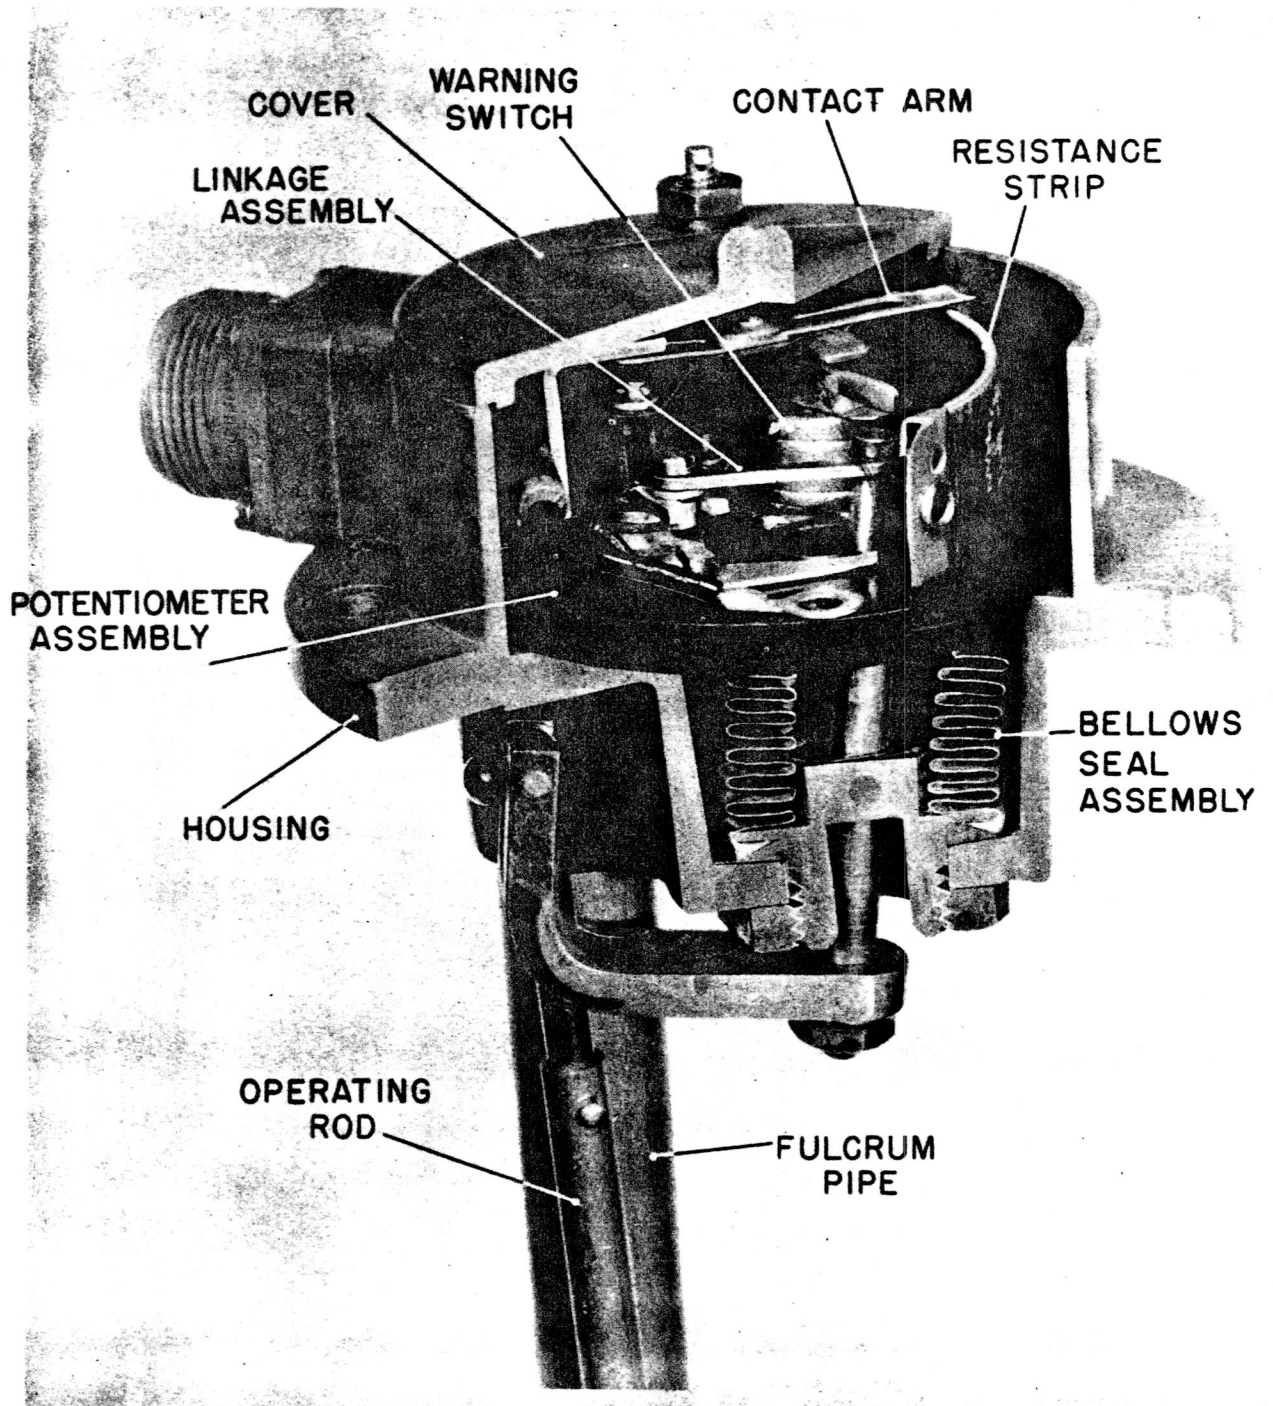

Figure 33—Cutaway View of Leverage Type Tank Unit
(1) A tank transmitter unit is installed on each tank. (Tank Units vary depending on the shape of the tank, internal obstructions, etc. They may be installed on top, side, bottom, or any other position on tank that will provide the most practicable installation arrangement.) Each tank unit contains a resistance strip and a movable contact arm, the position of which is varied by the motion of a float in the tank. This position is transmitted electrically to an indicator graduated in gallons or other form of measurement. Fuel leakage from the tank is prevented by a metal bellows at the point where the float movement is carried through to the resistance strip unit.
(2) The tank units are made in two forms; namely, a leverage type float unit and a direct lift float type. In both types, a direct mechanical linkage (no gears are used) is employed to carry the movement of the float directly to the electrical portion of the unit. This direct linkage movement is obtained by using a rocking motion of a metal bellows. This metal bellows acts as a seal between the fuel tank contents and the electrical parts of the unit. The bearings are slotted to wipe away any deposit left in them due to contact with the fuel or fuel vapors.
(3) The float arm is rigidly constructed and of definite length and form. The movement between the float arm and the electric transmitting element is by simple direct linkage. Where pivoted floats are used they are properly counterweighted to insure a horizontal position when freely suspended.
(4) All tank units are so constructed that the pointer travel over the face of the calibrated scale can be easily adjusted to indicate "EMPTY" and "FULL" when the float touches bottom and top of tank, without removing tank unit. This adjustment is made part of the tank unit so that a true indication at "EMPTY" and "FULL" can be made to overcome discrepancies in tank dimensions.
(5) On planes requiring a low liquid level warning signal, a small sealed switch is secured to the same molded part that supports the resistance strip in the tank unit housing. A simple adjustable metal arm operates the switch which in turn operates a warning light. A sectional view of each type tank unit is not provided, since the general construction of each type is satisfactorily illustrated in Figure 33.
(1) All Tank Units of the leverage type bear the prefix EA-15, EA-16, EA-18, EA-65 or EA-85. The EA-16 unit has an overhanging housing using box-connector fittings while the others have circular housings, using plug-in connectors except the EA-18 which has a special cable, using terminal lugs. The EA-15 and EA-85 tank units are identical except that the EA-85 flange diameter is larger than the EA-15. The EA-65 and EA-84 Tank Units are used in conjunction with 300-degree scale indicators while the other tank units are used in conjunction with 90- or 120-degree scale indicators. The numbers mentioned above designate the type of unit while the additional numbers used in each case identify it in respect to size, mounting, warning signals, etc.
(2) Figure 33 shows the mechanical action of a tank unit arranged for mounting on the top of a tank. As previously stated, tank units may be installed top, bottom and side or any other position that provides the most suitable installation arrangement. The leverage type tank unit has the housing attached to tank flange. The float rides the liquid surface and moves float arm which is pivoted at the end of the fulcrum pipe. This fulcrum pipe is attached to the housing. The push rod is pivoted to the float arm with the opposite end pivoted to a short arm. The latter is attached to a pivoted rocker arm. The rocker arm is slotted to metal bellows head and the lower end of the bellows is sealed to pivoted supporting head. The bellows head is drawn in place to form a seal at the bottom of the housing by a locating nut. Thus, it can be seen, that liquid, vapor or air from the tank cannot pass through the bellows.